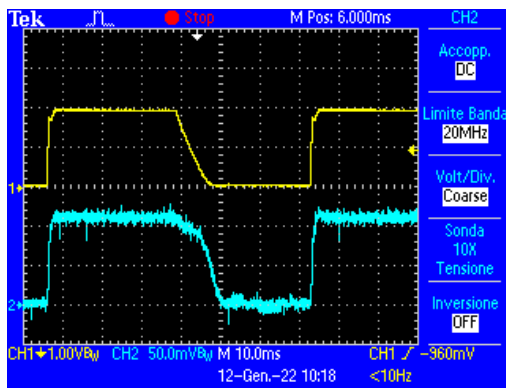

Fig. 5a
- Check that the resulting values are correct respect values in the table below and then check the wave-length by comparing it to the typical wave-lengths shown in fig. 5a (60 kV) and 5b (100 kV).